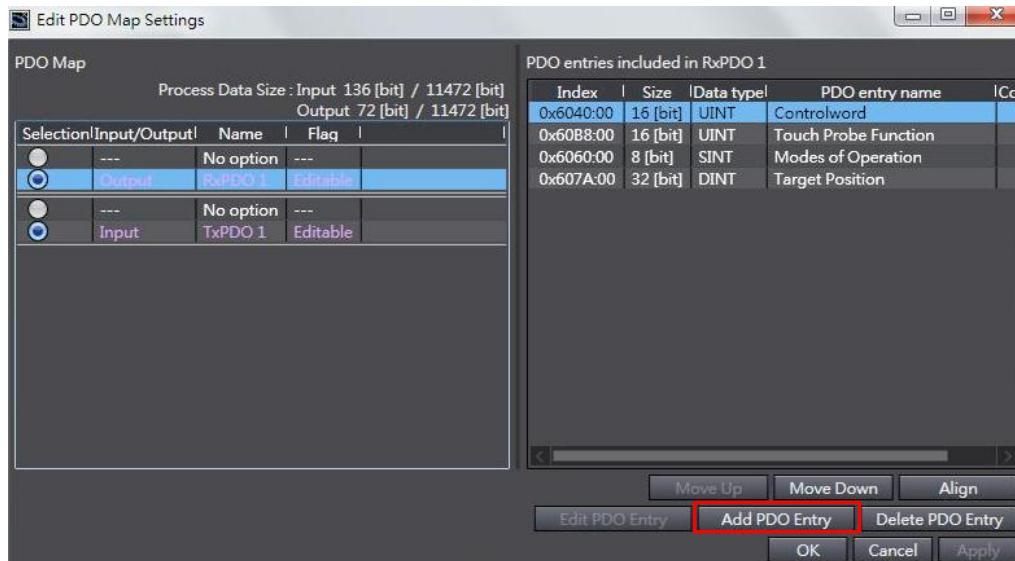

Fig. 5-44
- (4) Select RxPDO1 and press the button of “Add PDO Entry” in the window of “Edit PDO Map Settings”. Add objects given in Table 5-2 into RxPDO1, as shown in Fig. 5-44.